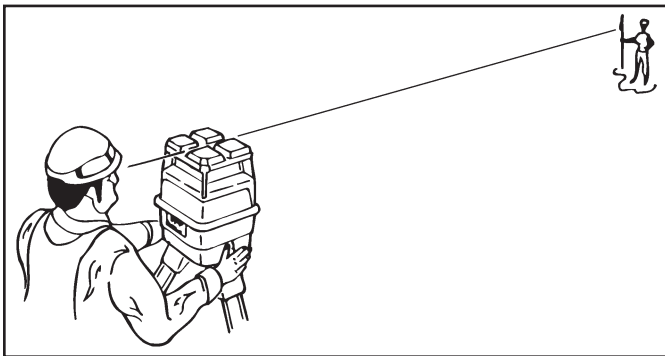

Figure 26. Sight Over Rotating Laser
5. Roughly align one of the axis to the grade stakes by sighting over the top of the Rotating Laser (Refer to Figure 26).
4. Roughly align one of the axis to the grade stakes by sighting over the top of the Rotating Laser (Refer to Figure 26).